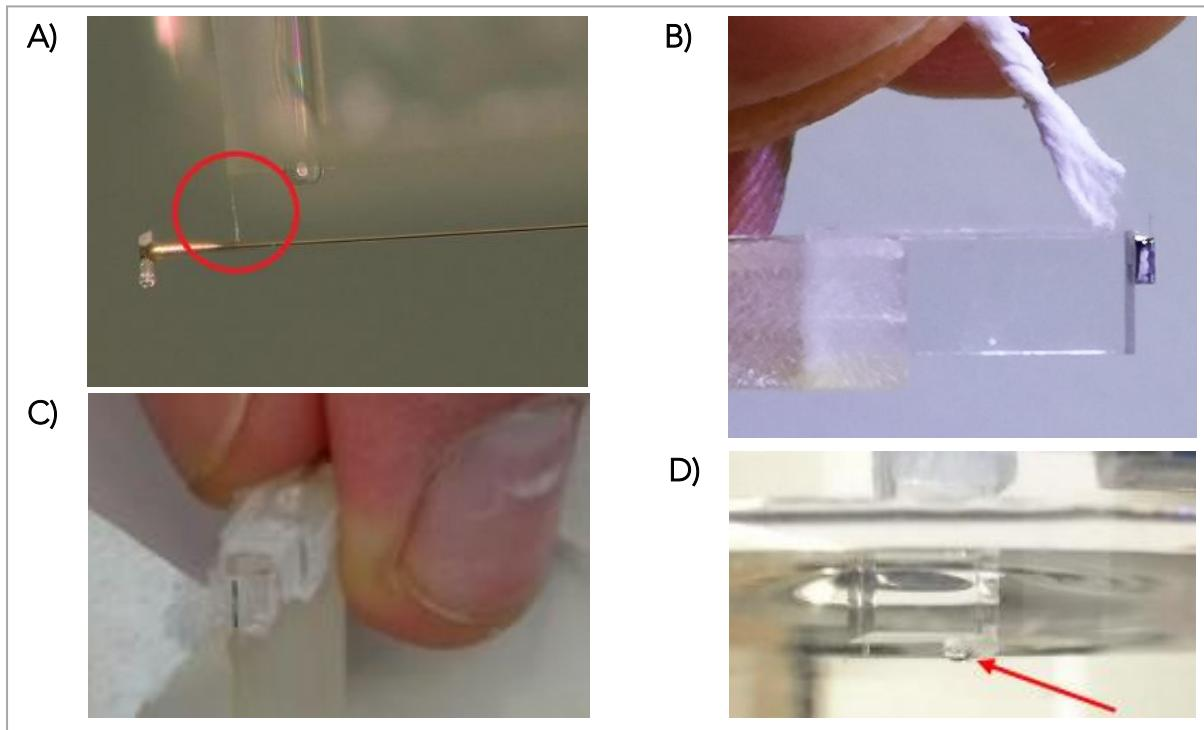

Figure 2 A) Cantilever stuck to fiber. B) Releasing cantilever with the tissue. C) Drying the probe with the tissue. D) Air bubble stuck to cantilever.
- Click the "Scan OP1550 Wavelength" button once. The interferometer screen will now show a progress bar. The live signal window on the screen show oscillations, see Figure 2 B (zoom in if needed). Wait until that is finished and check if no error (Figure 2 D) is reported on the interferometer screen or software. You can also check the result of the "Wavelength scan" in the corresponding interferometer window Figure 2 C.
Figure 2: A) Working principle of the interferometer. B) Live wavelength scan signal, use buttons on the right bottom corner to zoom in and out. C) Good wavelength scan and D) failed one.
Principle: Laser light (~1550nm) is coupled to the single-mode fiber. The light is reflected from the two interfaces: the end of the fiber and the cantilever. The back-reflected light interferes, and the signal is measured in the detector. The interference signal is described by the formula in Figure 2 A where the signal is a cosine function of the gap size (between the cantilever and the fiber) and wavelength. It means that whenever the cantilever is bending or the wavelength of the laser is changing over time, interference fringes (cosine function) will be observed.
- *Air bubble between the cantilever and tip fiber – Get rid of the air bubble (Figure 2 D).*
- *Cantilever stuck at the tip fiber – dry it and unstuck it with a piece of paper (Figure 2 A-C).*